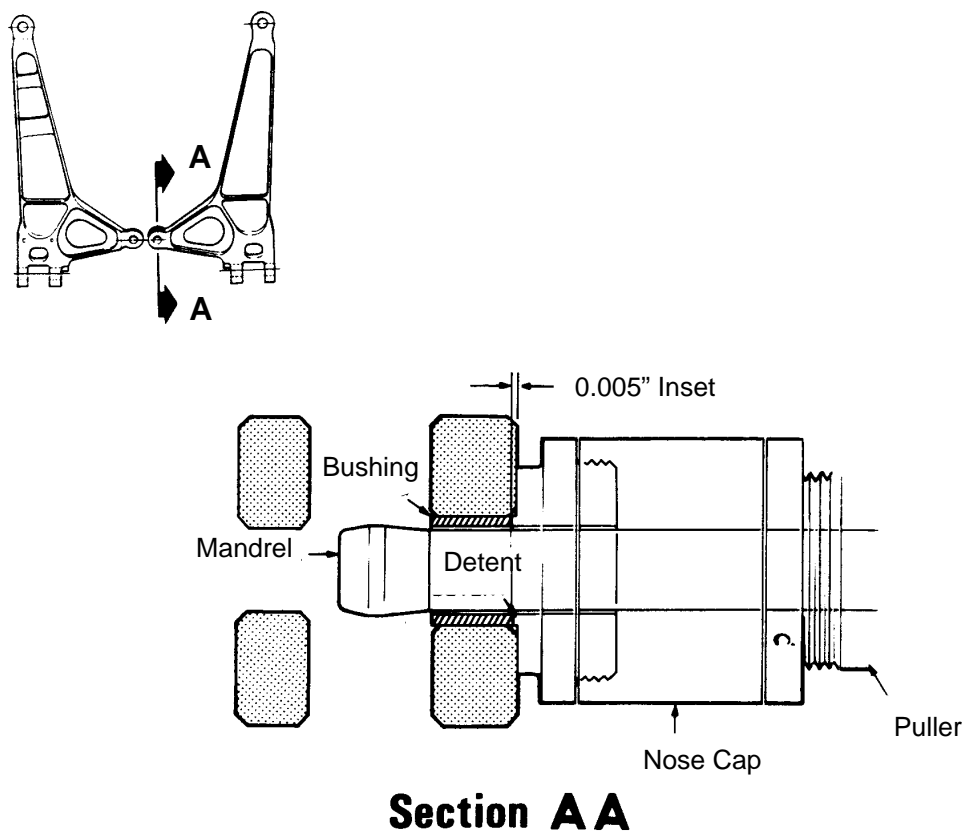

Figure 6 - Installation of DSC 399 Bushings
5.4.2.1 Install DSC 399 bushings as follows (see Figure 6):